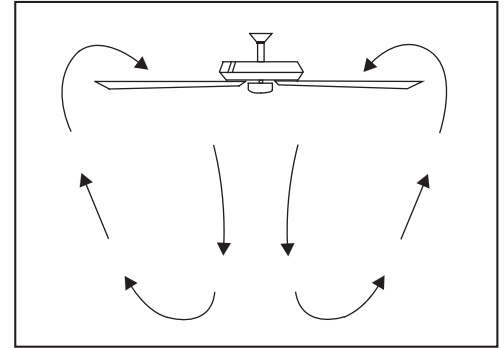

Figure 22
**Warm weather** - (Counter-Clockwise direction) A downward air flow creates a cooling effect. (Fig. 22) This allows you to set your air conditioner on a higher setting without affecting your comfort.